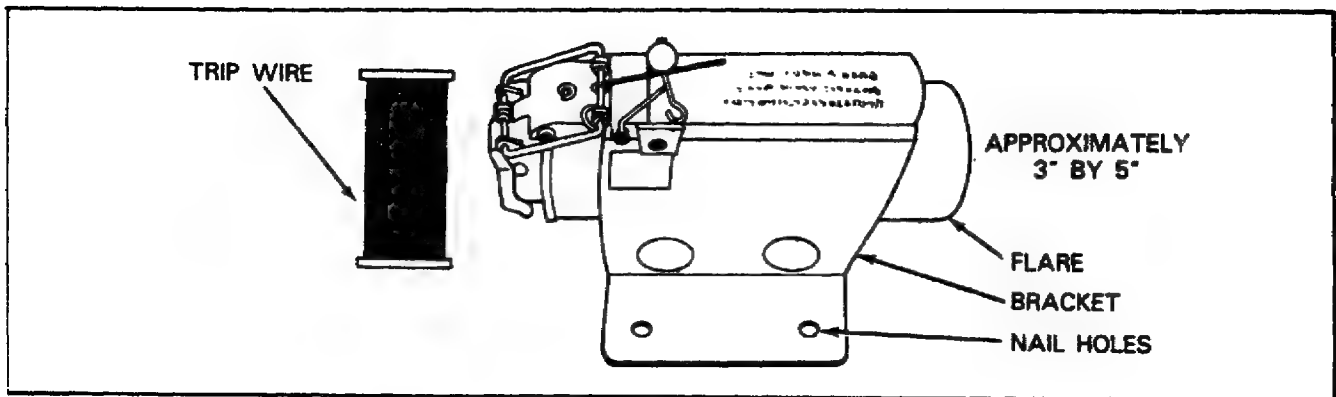

Figure 101. Flare, Surface, Trip, M49A1.
**Ground Trip Flares.** The flare, surface, trip, M49A1 (Figure 101) is emplaced and rigged with a trip wire to give warning of infiltrating enemy troops. It does this by illuminating the field of the advancing enemy. The M49A1 flare is 5 inches long and 3 inches wide across the entire assembly. It is packaged with a trip wire spool and nails for emplacement. When activated by the trip wire, it provides a brilliant light at 2,000,000 candlepower for one minute. The M49A1 flare is easily identified by the mounting bracket safety clip and a safety lever similar to that on a hand grenade. It is color coded olive drab with black markings.